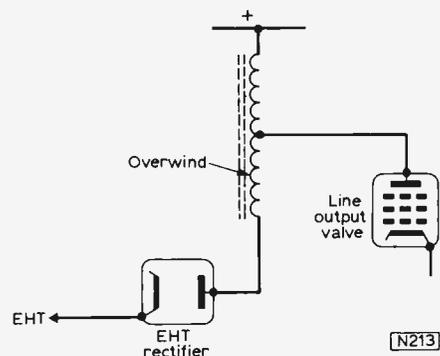
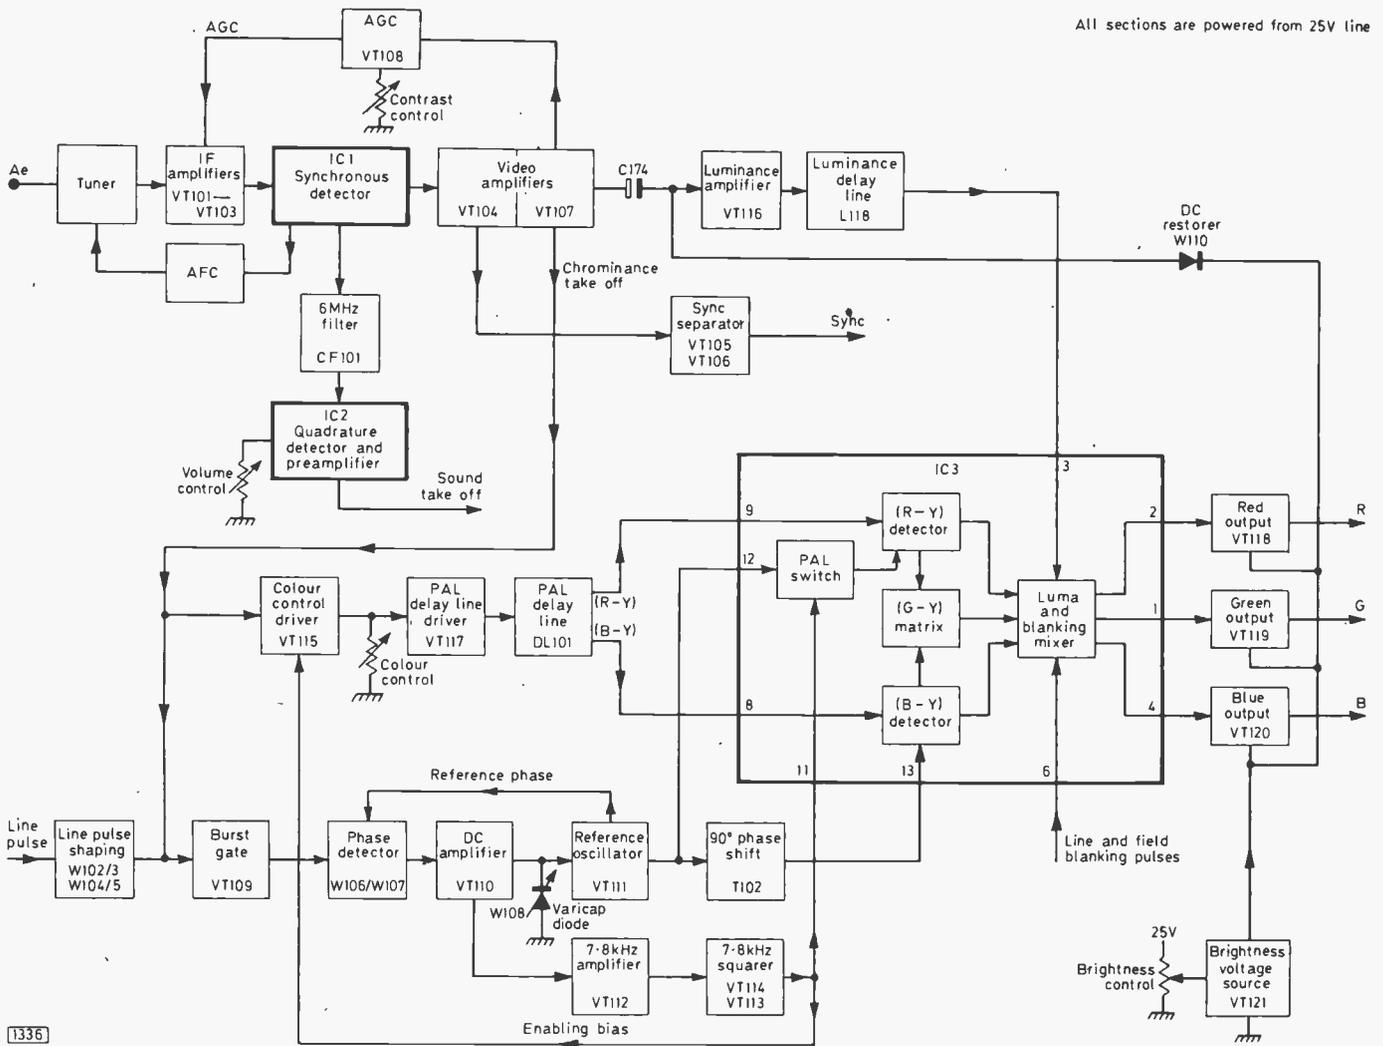

Fig. 5: Basic principle of e.h.t. generation by the line output stage.
Fig. 1: Block diagram of the i.f./decoder/RGB output panel.
valve and about 300V in a transistor stage, but if another winding is connected in series and on the same core, as in Fig. 5, the induced voltage will be stepped up by transformer action. We can take this voltage and rectify it to use as e.h.t. The extra portion of winding on the line output transformer is known as the OVERWIND.
i.f., chroma and video drive circuits and is a large panel mounted on the left-hand side (viewed from rear) of the chassis. The contents of this board are shown in block form in Fig. 1.
Each section shown in Fig. 1 will be dealt with in turn. Note particularly the use of i.c.s for vision and sound detection and for chroma processing. The whole board is powered from the stabilised 25V line – which shoots up to 45V if the stabiliser transistor on the power board goes short-circuit! Fig. 5 shows the position of the various test points. (Our photos show panel PC651.)